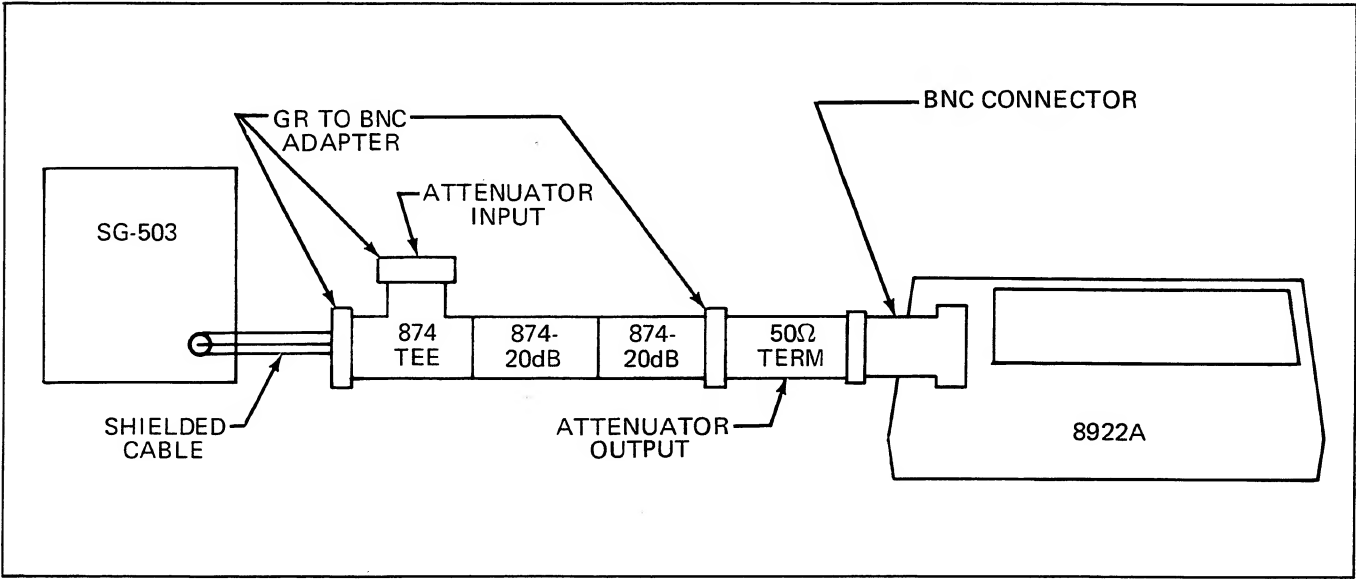

Figure 4-3. AC Low Level Check
4-25. This procedure will verify that the UUT's low level AC performance meets the specifications of Section 1. Set up the test equipment as shown in Figure 4-3 and complete the AC Low Level Calibration procedure, but replace steps 2-d and 2-e with the following:
- Set up the test equipment as shown in Figure 4-3.